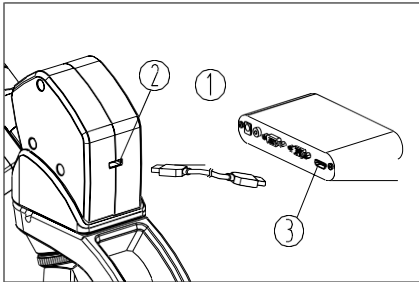

Fig.20
Insert the connector① of HDMI cable into the HDMI interface② on the back of microscope head, view the real time image by connecting the other end to the converter device③ (See Fig.20 (Only for HDMI digital microscope.))